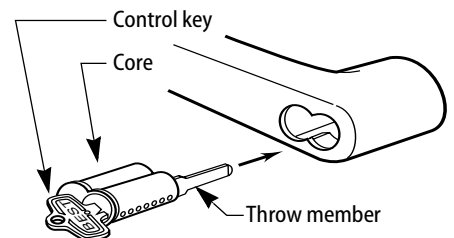

Figure 11—Installing the core
- 2 Insert the control key into the core and turn the key 15 degrees clockwise.
- 3 Insert the core and throw member into the lever with the control key as shown in Figure 11.